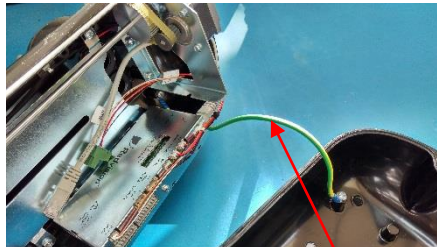

Fig 14
- Gently pull the housing cover backwards and upwards, noting that an earthing strap connects the housing cover to the base. Ensure that the earthing strap remains connected at all times (Fig 14). ⚠ **Take care to ensure that the earth strap is not trapped when refitting the housing cover.**